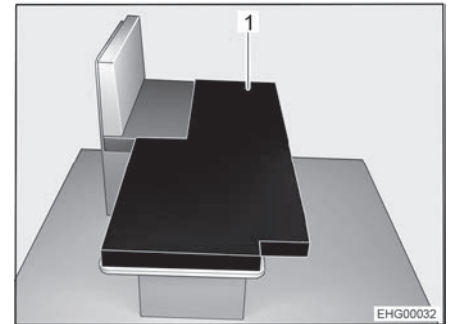

Fig. 42 After conversion
- Place additional cushion (Fig. 42,1) on the lowered table as shown in the image.